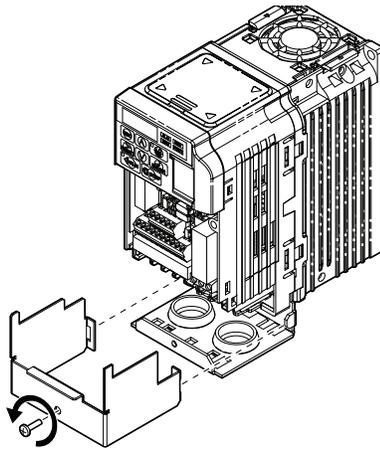
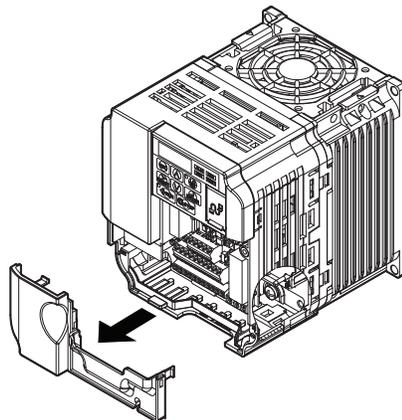

Figure 12 Remove the NEMA Type 1 Terminal Cover
Figure 13 Remove the Terminal Cover on an IP20/NEMA Type 1 Drive (Models CIMR-V□BA0006F to BA0018F; 2A0010F to 2A0069F; 4A0001F to 4A0038F)
7. **From STEP 2.** for IP20/NEMA Type 1 enclosure models CIMR-V□□□□□□F, loosen the screw on the front of the NEMA Type 1 terminal cover and remove it from the drive. Refer to **Figure 12** for details. Refer to **Figure 13** for drive models CIMR-V□BA0006F to BA0018F, 2A0010F to 2A0069F, and 4A0001F to 4A0038F, which require removing the plastic terminal cover prior to removing the NEMA Type 1 terminal cover.